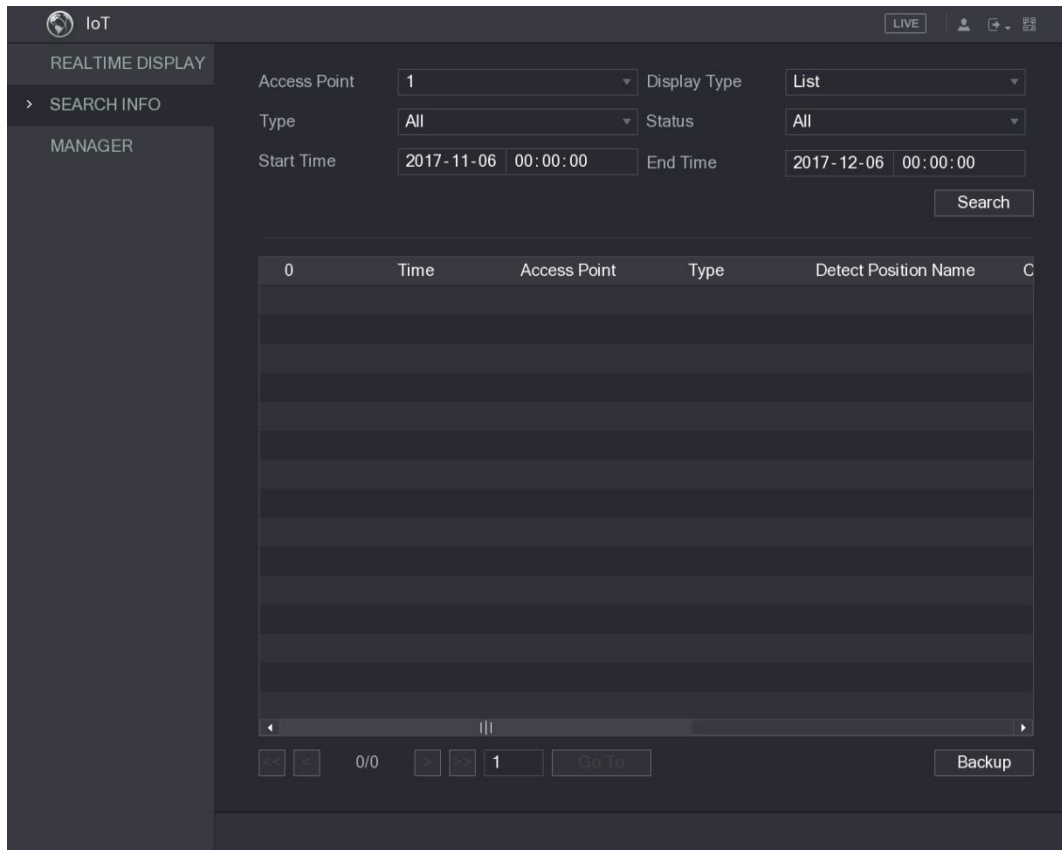

Figure 5-191
Step 1 On the main interface, select **IoT > SEARCH INFO**. See Figure 5-191.